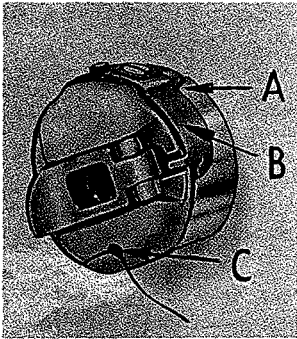

Fig. 8
Place the bobbin in bobbin case. In one continuous motion, with thumb and forefinger of right hand, draw the bobbin thread through diagonal slot in bobbin case (A, Fig. 8) under the tension spring (B) and into self threading slot (C) on case. Note direction of the rotation of the bobbin as the end of the thread is pulled when looking at the bobbin case from the back. The bobbin should rotate counterclockwise.